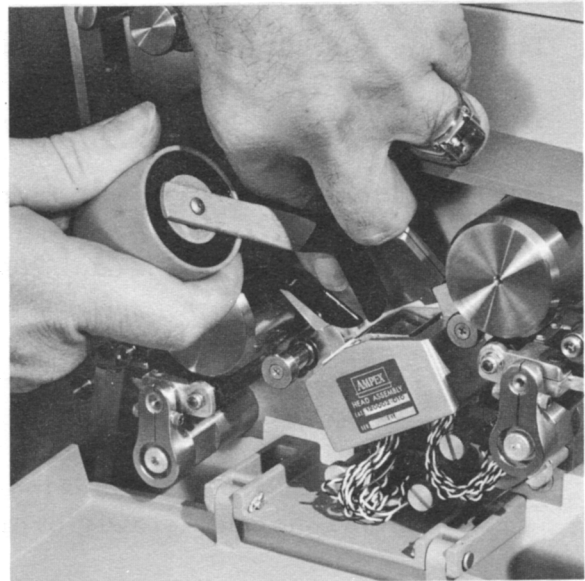

Figure 7-4
Step 4: Bring the tips of the demagnetizer into close proximity to, but not in contact with, the head (Figure 7-4).